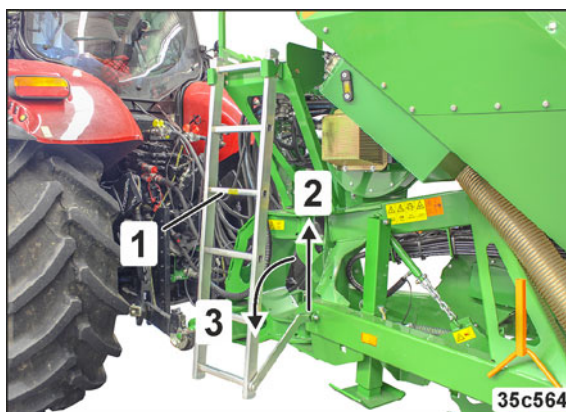

Fig. 243
5. Lift the ladder (Fig. 243/1) out of the locking device (Fig. 243/2) and lower to the stop (Fig. 243/3).